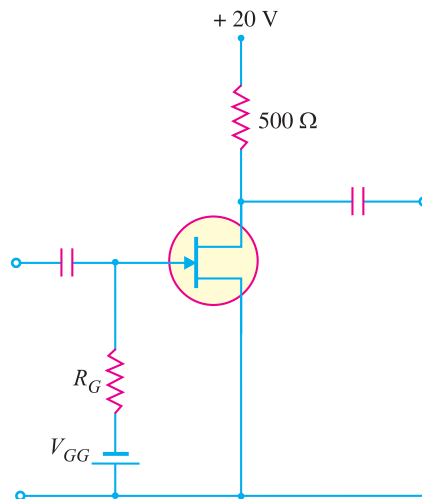

Fig. 19.65
4. For the *JFET* amplifier shown in Fig. 19.65, draw the d.c. load line.